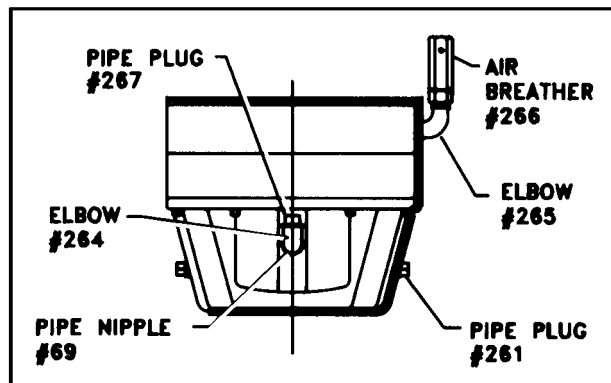

Figure 3-15
4. Remove pipe plug #64 from housing #8 (See Figure 8-1). Install 90 degree elbow #265 and breather #266 (See Figure 3-15).